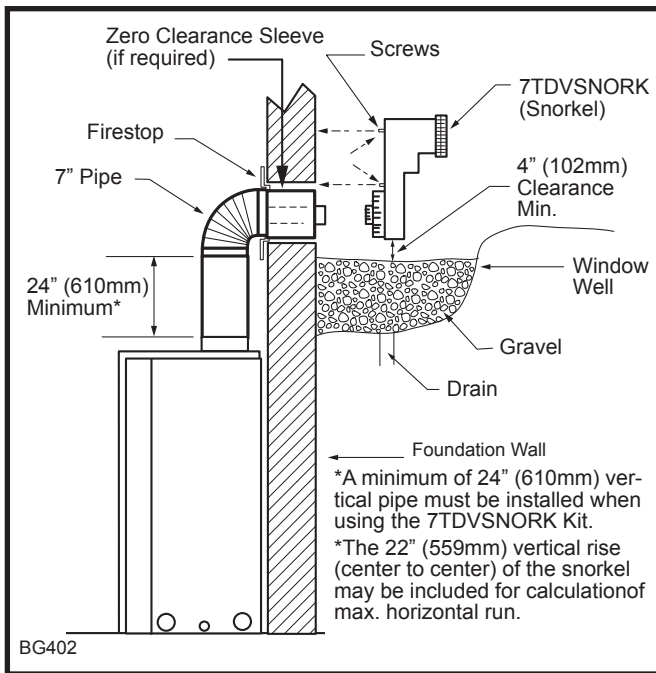

Fig. 53 Below grade installation.
2. Remove soil to a depth of approximately 16" (406 mm) below base of snorkel. Install drain pipe. Install window well (not supplied). Refill hole with 12" (305 mm) of coarse gravel leaving a clearance of approximately 4" (102 mm) below snorkel. (Fig. 53)
7. Level the soil to maintain a 4" (102 mm) clearance below snorkel. (Fig. 53)